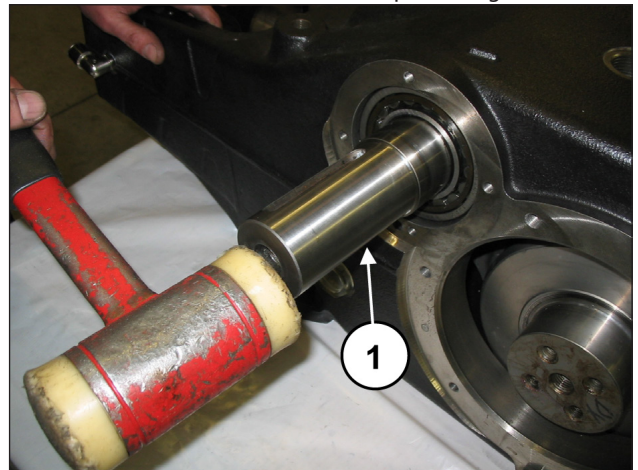
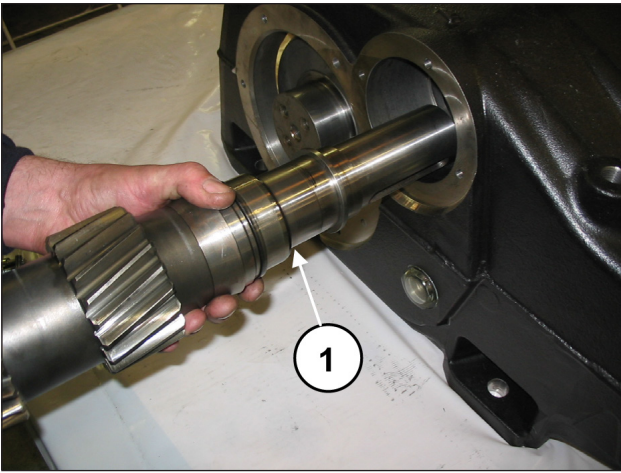

Fig. 31
Fig. 32
Using an extractor hammer (pos. ①, Fig. 31) take out the PTO shaft from either one of the two sides (pos. ①, Fig. 32).